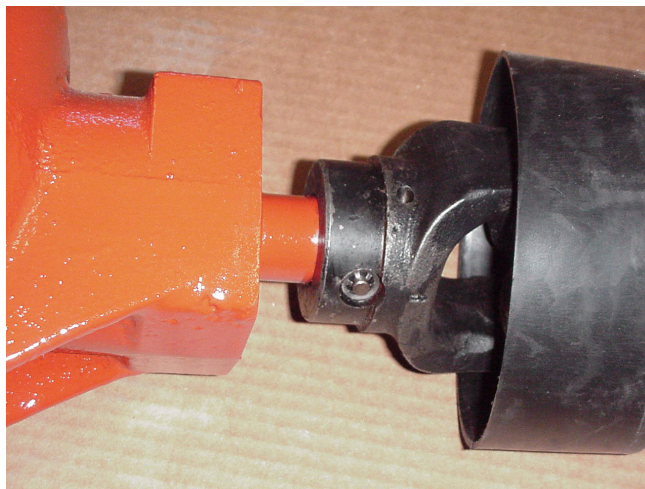

Figure 3
Make sure Lock Ring is securely placed on Pin (**Figure 3**). To remove Pin when sheared see **Maintenance Section**.
## ATTACHING HYDRAULIC DRIVE PHD - Figure 3
1. Attach Hydraulic Drive Gearbox (8) to Auger Shield (7) using 5/16" x 3/4" Bolts (4), Lockwasher (5), and Flatwasher (6).
2. Place Hydraulic Coupling (9) onto the Hydraulic Motor's (10) spline shaft. Align Coupling (9) and Motor (10) with receiving end of Gearbox as shown in **Figure 3**.
3. Secure Hydraulic Motor (10) to Hydraulic Drive Gearbox (8) using 1/2" x 1-3/4" Bolts (1), Lockwasher (2), and Bar Spring Clip (3).